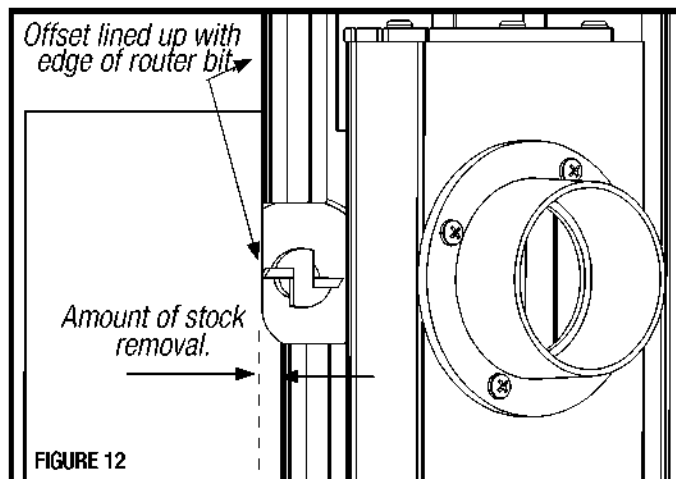

FIGURE 12
A. Set up the Fence so the router bit sits just proud of the Infeed Fence. Begin feeding the board across the router bit. Stop feeding the board and turn off the router once the board extends past the bit about 3". **FIGURE 12**